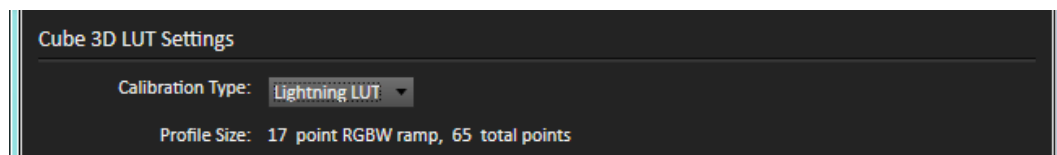

Figure 4: The Lightning LUT process uses an innovative conversion matrix algorithm to produce a high quality calibration LUT in just five minutes or less.
1. On the *AutoCal Setup* dialog, under *Calibration Type*, select “Lightning LUT” (figure 4).